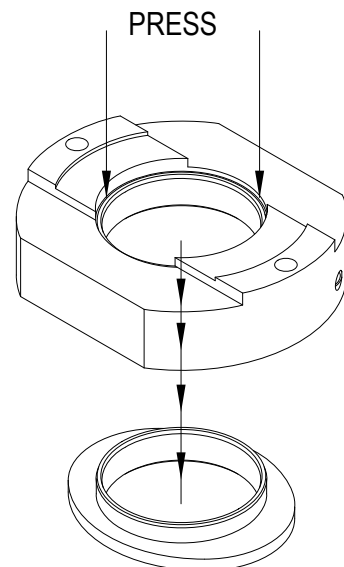

*Figure 10*
- h) Turn the pump housing over. Use a small flat blade screwdriver to remove the front stationary seal o-rings from the grooves in the pump housing (*Figure 10*).